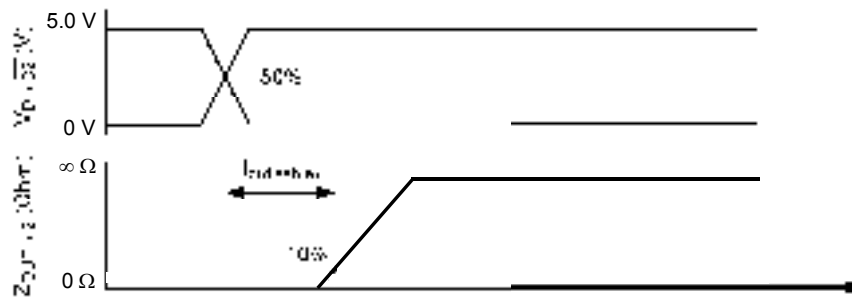

Figure 3. Disable Delay Time
30. Disable Delay Time is the time duration from the midpoint of the D (disable) input signal to 10% of the output tri-state response. See Figure 3, page 11.